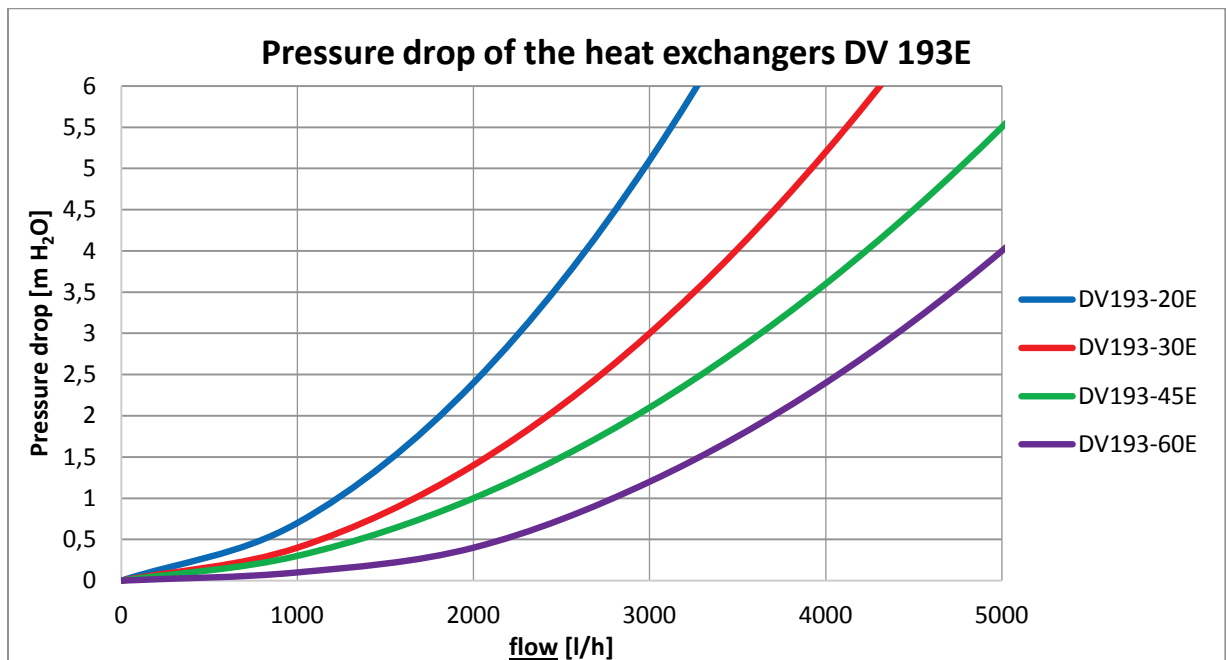

Fig. 4
- b) **Required output and mean temperature drop** - prior to the heat exchanger selection, at least two its parameters out of three shall be known – output, flow rates on the primary and secondary sides and temperature drops on the primary and secondary sides. From the 2 parameters known the third is calculated using the equations at the end of this document. After that, the mean temperature drop between the primary and secondary sides is established using the equations at the end of this document (if the required temperature drop is not given by the system design, the mean temperature drop depends on the application type, see Table 3). Then use the calculated or given flow rate and select its closest lower flow rate on the primary side shown in the diagrams – 750, 1500 or 2400 l/h. Then seek the diagram that corresponds to the selected mean temperature drop and primary flow rate. In this diagram select the closest higher curve of the heat exchanger output. The size of the heat exchanger can be read at the right end of the curve. The pressure drop of the selected heat exchanger is shown in Fig. 4.